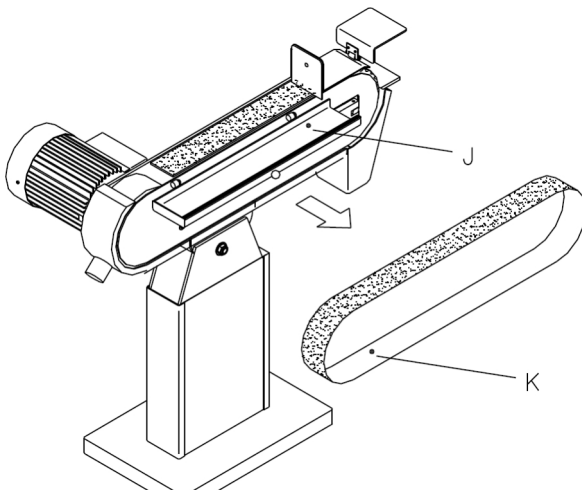

Fig. 7: Change of the sanding belt
Step 2: Remove the worn tape (K, Fig. 7) by slowly pushing the tape against the direction of rotation while at the same time pulling it sideways off the drive wheel.